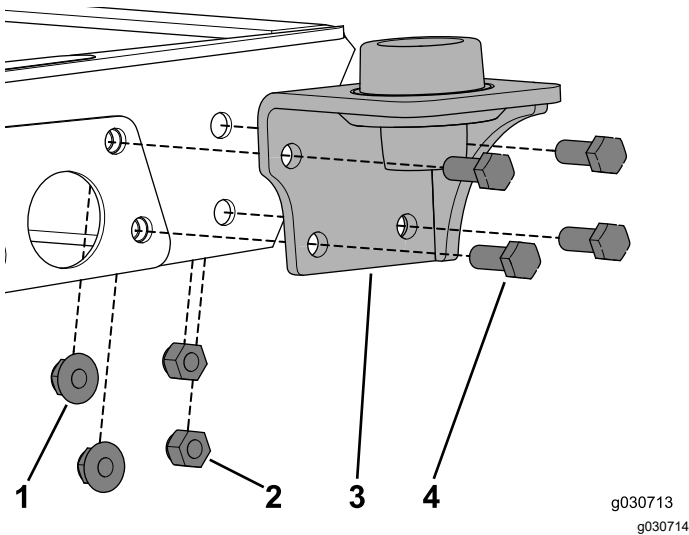

Figure 19
1. Remove the existing hardware and use the 4 bolts (3/8 x 1 inch) 2 flange nuts, and 2 locknuts to secure the mount to the machine (Figure 19).